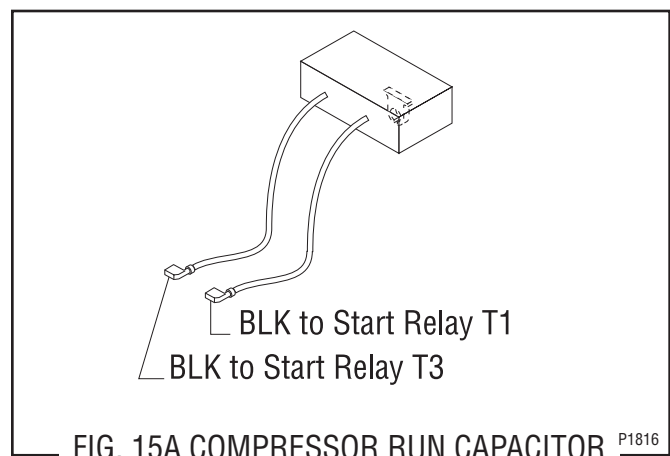

FIG. 15A COMPRESSOR RUN CAPACITOR
1. Remove terminal cover retainer (6) and terminal cover (5).
6. Refer to Fig. 15A and reconnect the wires.